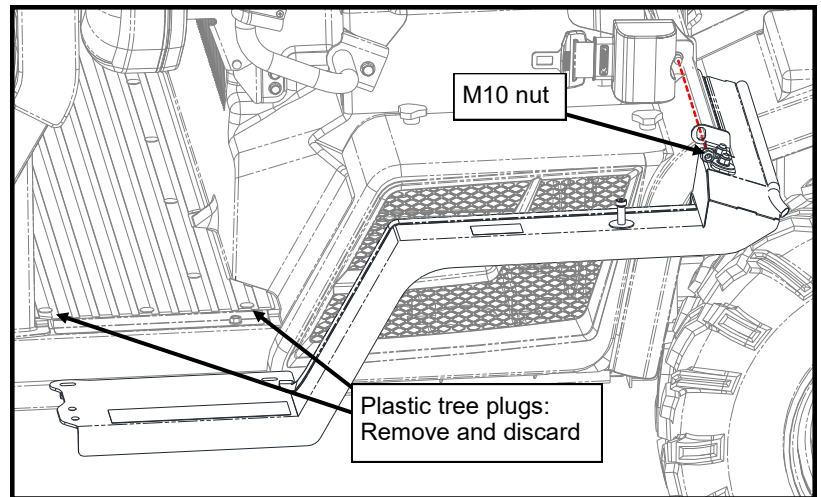
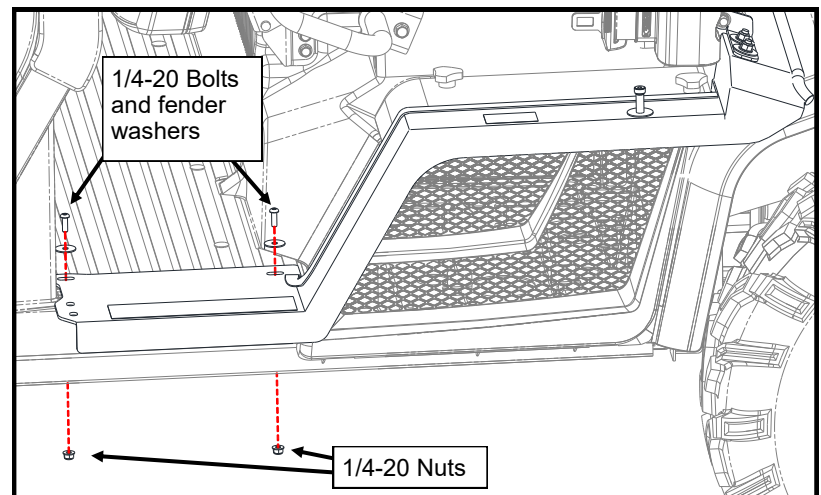

Figure 5.2: Rear Fender Panel (Driver's side shown)
Figure 5.3: Rear Fender Panel (Driver's side shown)
- 5.2 Remove the two plastic tree plugs shown from the rear floor pan. Remove the M10 nut from the seat belt retractor for the rear seat (see Figure 5.2). Do not remove the seat belt retractor or washers.
- 5.3 Slide the fender panel under the frame for the seat belt, over the stud for the seat belt and outside the seat belt retractor (see Figure 5.2). Install two 1/4-20 x 3/4" button-head bolts and fender washers through the floorboard and secure with 1/4-20 nuts under the floor pan (see Figure 5.3). Leave loose.